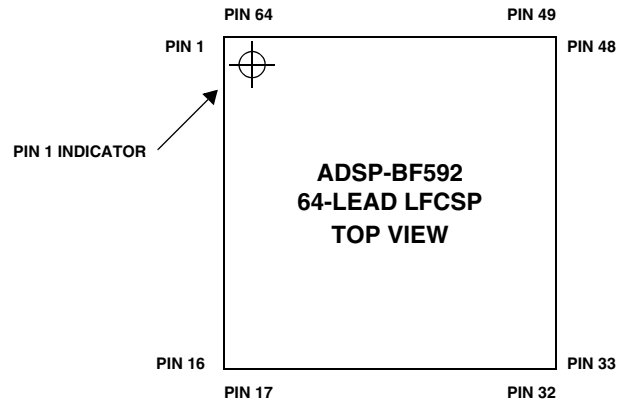

Figure 42. 64-Lead LFCSP Lead Configuration (Top View)
* Lead no. 65 is the GND supply (see Figure 42 and Figure 43) for the processor (6.2 mm × 6.2 mm); this pad **must** connect to GND.
* Pin no. 65 is the GND supply (see Figure 42 and Figure 43) for the processor (6.2 mm × 6.2 mm); this pad **must** connect to GND.
Figure 42 shows the top view of the LFCSP lead configuration. Figure 43 shows the bottom view of the LFCSP lead configuration.